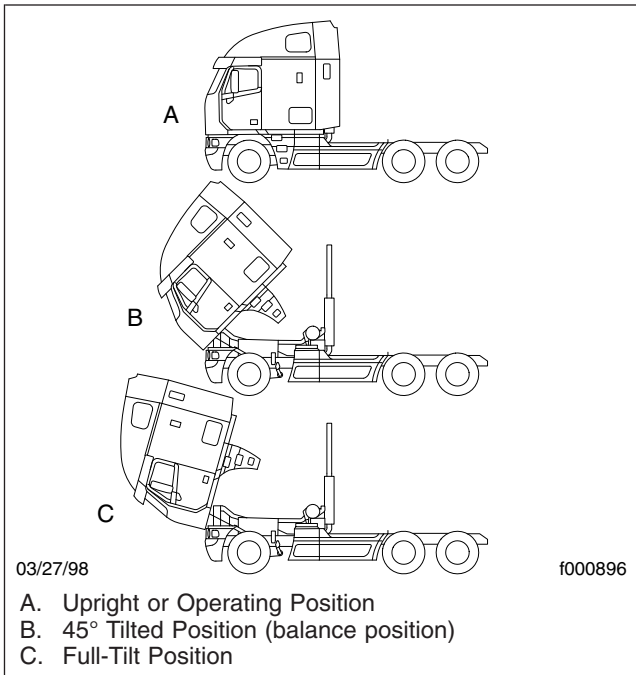

Fig. 2.15, Cab Tilt Positions
9. To tilt the cab all the way, press and hold the button on the pump until the cab nears a 45-degree angle (the balance point). See Fig. 2.15. Once the cab goes beyond 45 degrees, release the button on the pump and move the tilt pump lever to the RETURN position in order to slow cab descent.
5. Press and hold the button on the pump until the cab nears a 45-degree angle (the balance point). See **Fig. 2.15**. Once the cab goes beyond 45 degrees, release the button on the pump and move the tilt pump lever to the TILT position in order to slow cab descent.